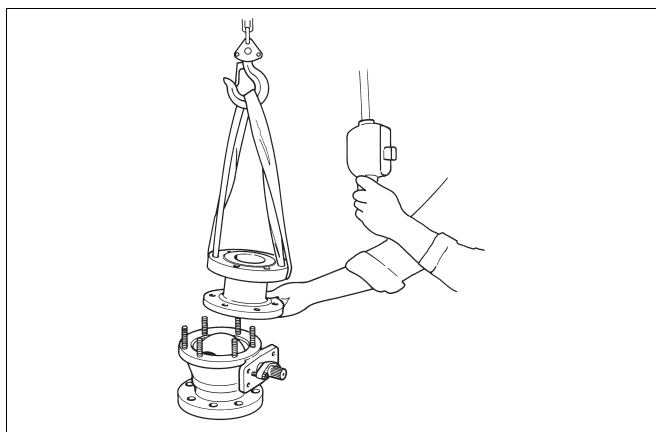

Fig. 16 Lifting a body cap
- ☐ Place the valve so that the body's hexagon nuts (16) / Body cap (2) point upwards. Use a surface that does not damage the flanges.
- ☐ Loosen the gland nuts (18).
- ☐ Loosen the body's hexagon nuts (16).
- ☐ Remove the body cap (2) from the valve. Should the ball seat (7) not stay on the body cap, keep it from falling while you are lifting it out by putting your fingers under the body cap (small sizes) or in the flow bore (large sizes). Watch out for your hand! Lower the body cap onto the surface in a standing position, i.e. onto its flange (see Figure 16).